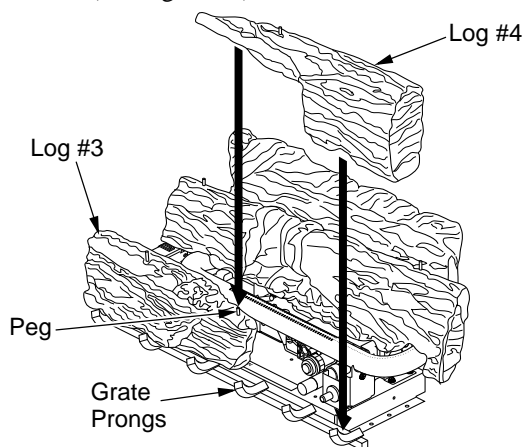

Figure 22 - Placement of Front Logs (Log #3 and Log #4)
3. Place left front log (log #3) on grate prongs as shown in Figure 22.
4. Place right front log (log #4) on peg of log #3 and grate prongs as shown in Figure 22.